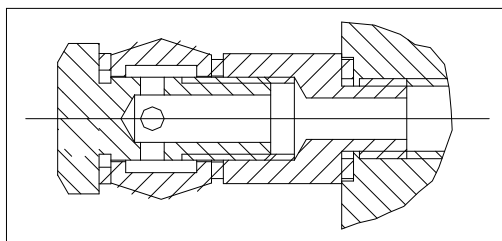

Fig. 37
- ◆ Connect the hydraulic unit to the circuit crossing with a flexible pipe. (**Fig. 37**)